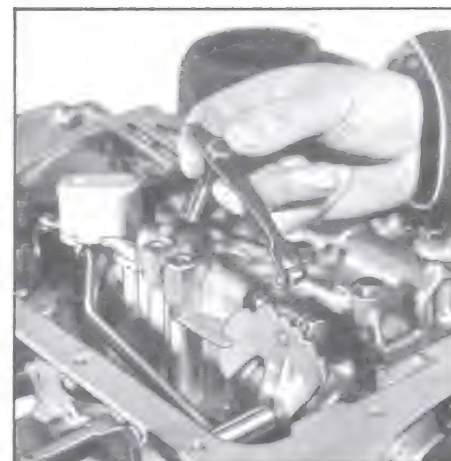

Figure 5-724
6. Install the control valve assembly attaching bolts and manual detent and roller assembly. Center roller on detent. See Figure 5-724.